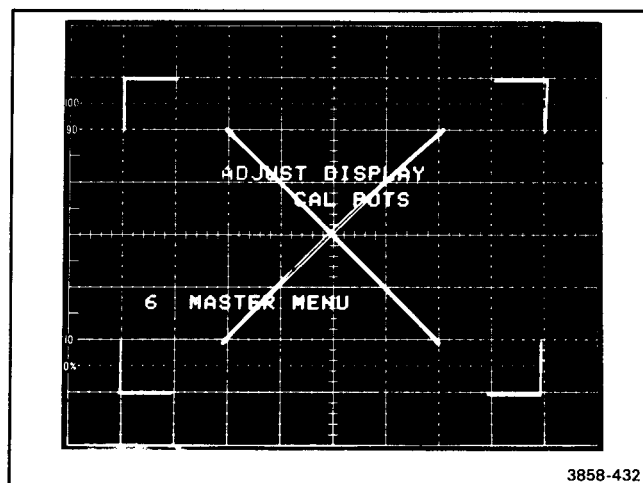

Figure 4-6. Display Adjust Pattern.
- While observing the DISPLAY CAL PATTERN displayed on the oscilloscope mainframe crt, use screwdriver to set VERT GAIN, VERT CTR, HORIZ GAIN and HORIZ CTR controls to place corner markers of DISPLAY CAL PATTERN on center 6 × 8 divisions of graticule, as shown in Figure 4-6.
- Set VECT LIN adjustment for minimum trace separation of the diagonal lines on DISPLAY CAL PATTERN as shown in Figure 4-6.
- While observing display cal pattern displayed on oscilloscope mainframe crt, set VERT GAIN, VERT CTR, HORIZ GAIN, and HORIZ CTR controls to place corner markers of displayed adjustment pattern on center 6×8 divisions of graticule, as shown in Figure 4-6.
- Set VECT LIN control for minimum trace separation of diagonal lines on displayed adjustment pattern as shown in Figure 4-6.